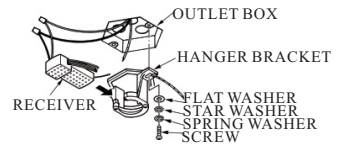

FIG.4
1. Securely attach the hanger bracket to the outlet box by washers and screws supplied. Connect white wire from ceiling to white wire from receiver with wire nut. Connect black wire from ceiling to black wire from receiver with wire nut. (see Fig.4)